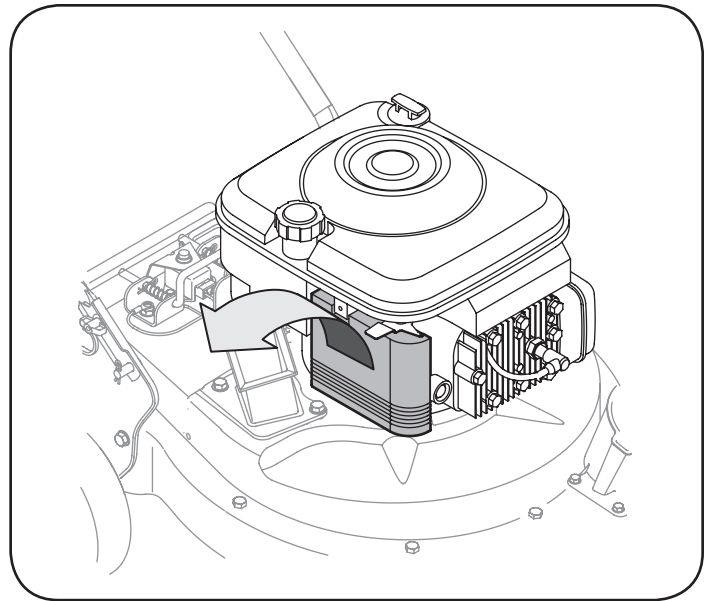

Figure 17
1. Loosen screw and tilt plastic housing cover on side of engine down. See Figure 17.